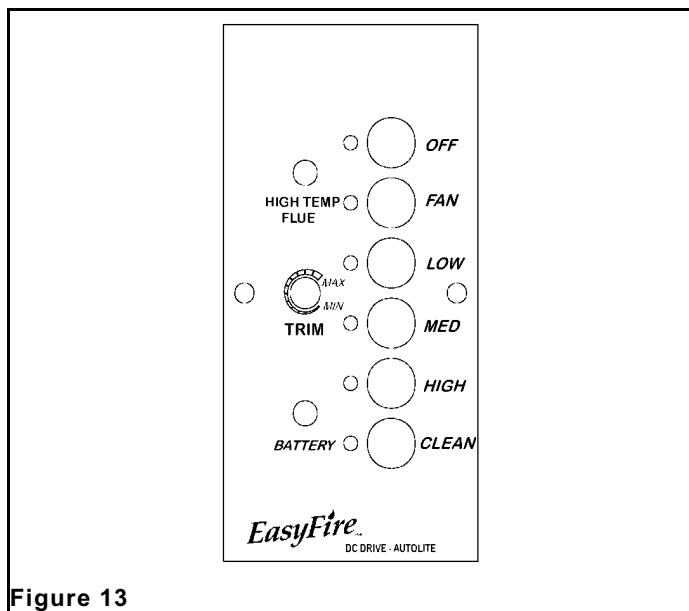

Figure 13
- C. In the **MEDIUM** position the EASYFIRE will be feeding approximately three (3) pounds of pellets per hour and the flame will fluctuate between 3" and 8" of fire.
3. Starting the Stove: Push a Heat Range button (Low or Medium is best for start up) (**Figure 13**) and turn the thermostat up to "Call for heat". The stove fan will begin to operate along with the ignitor cycle. After about a minute the pellets will begin to fall in the burn pot. After five minutes there will be a fire in the burn pot and the stove will begin to heat up. When the stove reaches start up operating temperature it will then switch to the control panel setting and begin it's automatic operation cycle.